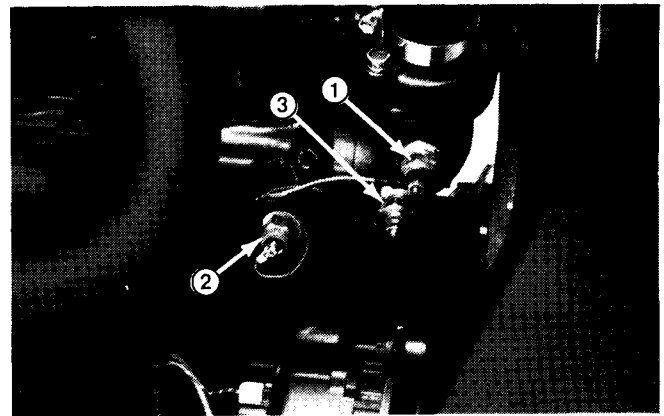

Figure 16
1. Lower the coolant level in the engine and remove the high temperature shut-down switch (Fig. 16).
1. Lower the coolant level in the engine and remove the temperature gauge sender (Fig. 16).